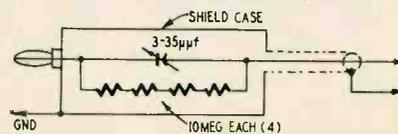

Fig. 5—Diagram of the TV pulse probe.
**TV pulse probe:** To best display TV pulse patterns, it is necessary to have a wide-band oscilloscope and a properly terminated transmission line or cable to conduct the signal from the receiver to the scope. This termination is a simple, but vital, TV pulse probe (Fig. 5). The probe termination is adjusted with